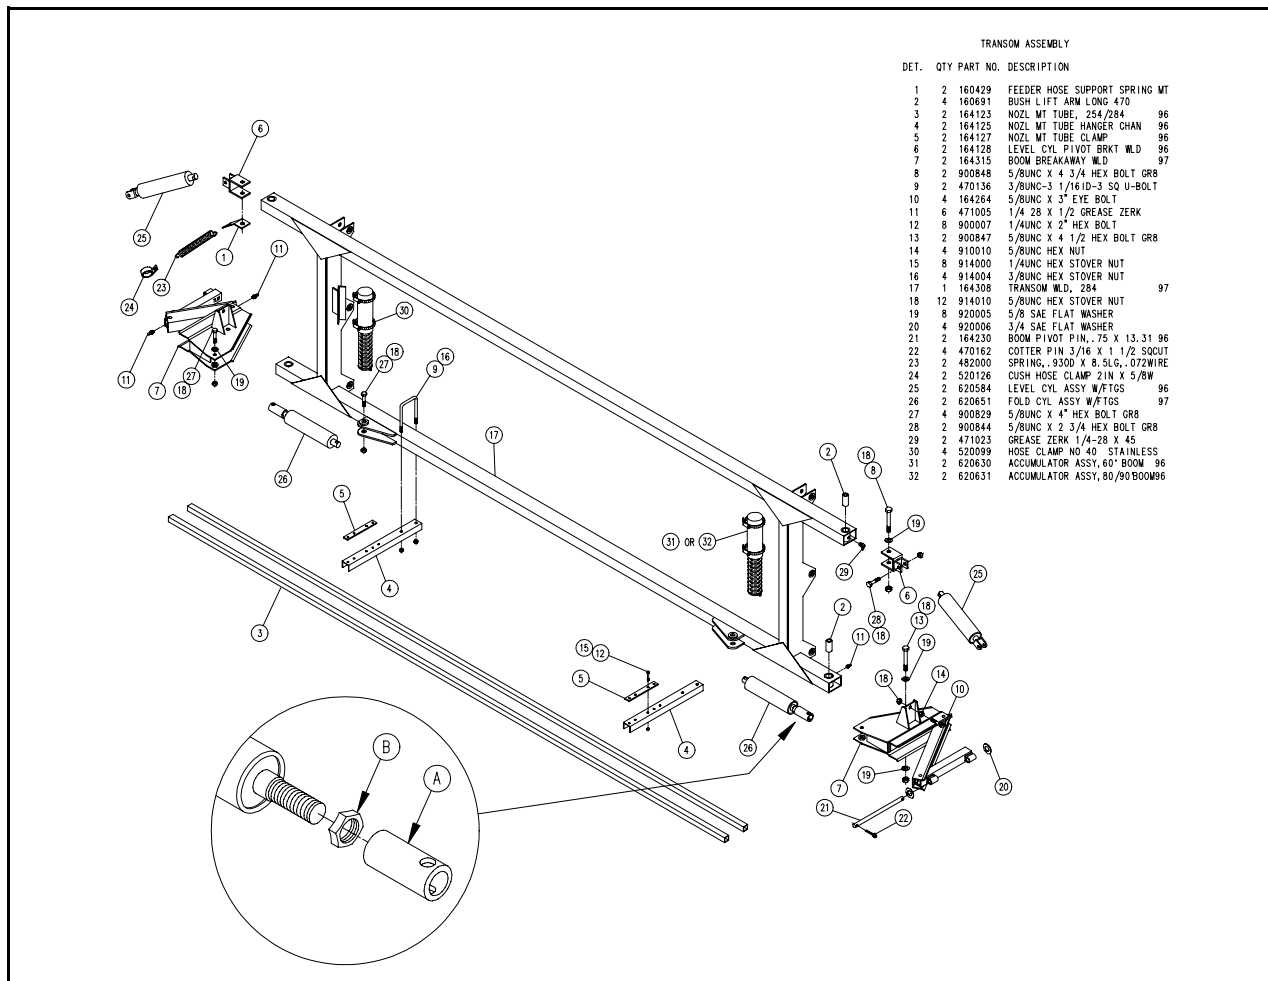

FIG 4.8
5. Install the transom weldment (fig. 4.8, item 17).
- After the outer booms have been installed, adjust the fold cylinder sleeve (page 26, fig 4.8, item A) until the booms are parallel with the transom. Then use this same adjustment to allow the boom to fold in far enough to locate in the boom cradle. Lock the cylinder sleeve in place with the jam nut (page 26, fig 4.8, item B).